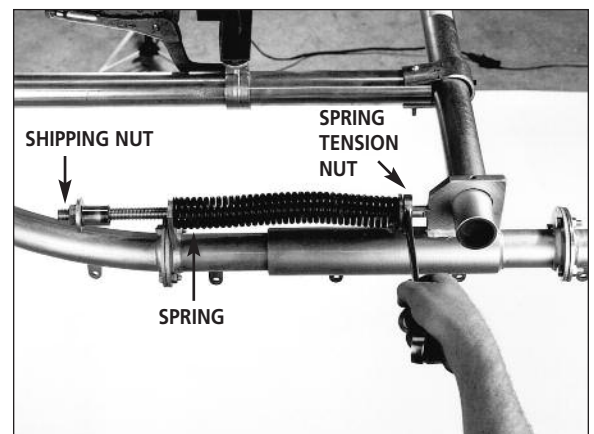

Figure 15
- Loosen shipping nut out to end of threaded rod as shown in **Figure 15**.
can be adjusted tighter by compressing the spring with the spring tension nuts, see **Figure 15**.